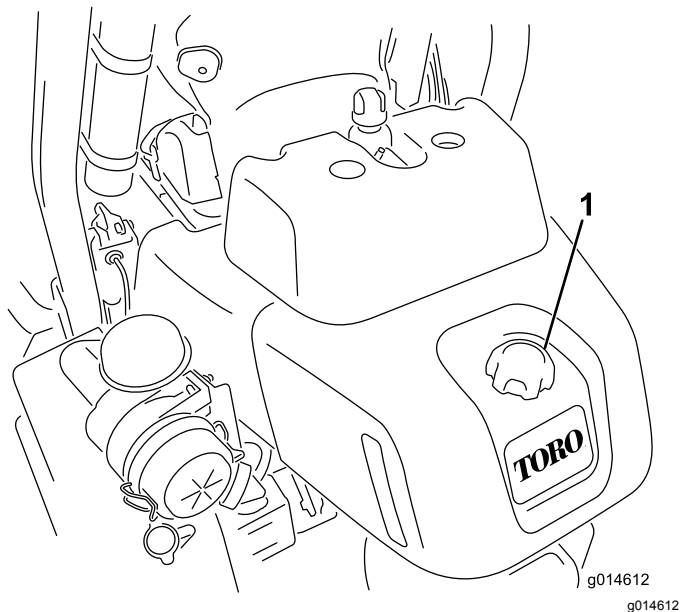

Figure 22
1. Clean around the fuel-tank cap (Figure 22).